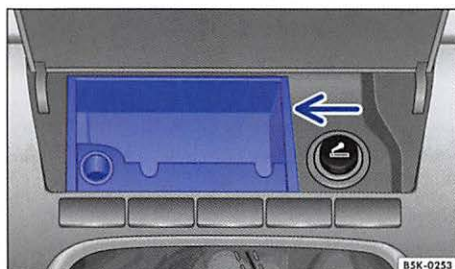

Fig. 114 In the front center console: Removing the ashtray.
- Pull the ashtray insert up and out using the handles on the side ⇒ fig. 114 (arrow).